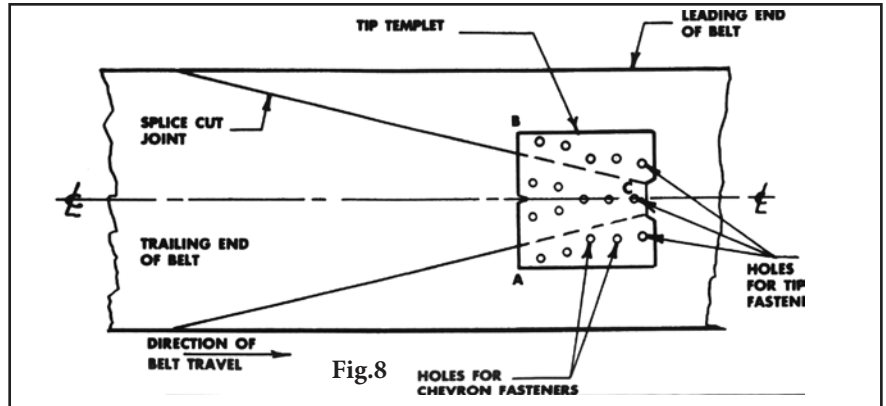

Fig.8
8. Punch tip holes using tip templet as shown in Fig. 8. Position tip templet by placing templet centerline on top of belt centerline and lining Notch C of the templet with the end of the splice cut as shown in Fig. 8. Nail templet into position. Use a No. HP2 Flexco punch and punch holes in the belt. Do not remove the tip templet. The edge A-B is used for proper positioning of the side templet.